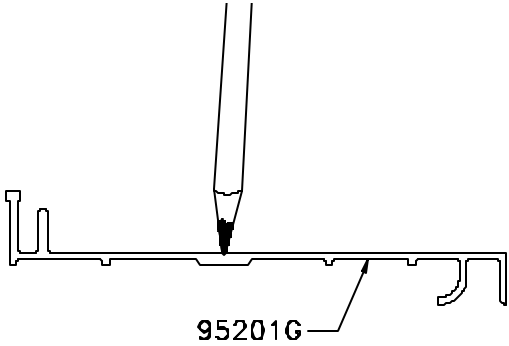

Figure 3
- STEP 3.** If the anchor holes have not been pre-drilled in the base members at the factory, mark the locations for the anchor holes on the selected base member (see Figure 3). Standard anchor spacing is 20" O.C. with an anchor at a nominal 3" from each end of the base member.